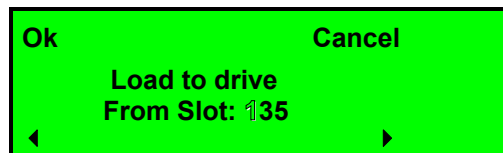

Figure 4.11 Load to Drive
1. From the default display press the menu button and select *Load to Drive* from the main menu. A screen picture like Figure 4.11 will be displayed. The selected cartridge's barcode is displayed in the bottom line.